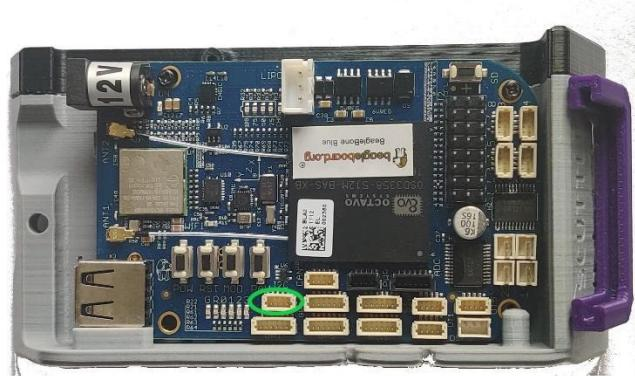

Figure 5 – I2C port location
- Connect the I2C bus board to the BeagleBone I2C port as shown in Figure 5.